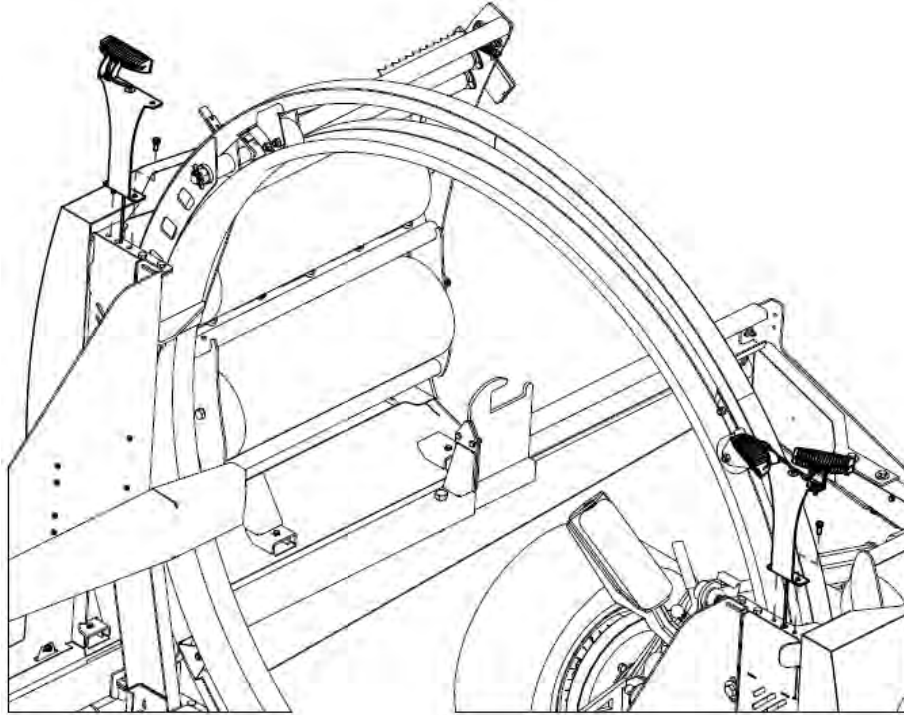

Fig.1
1. Install left side on top of left safety guard mount with provided hardware. See Fig.1.